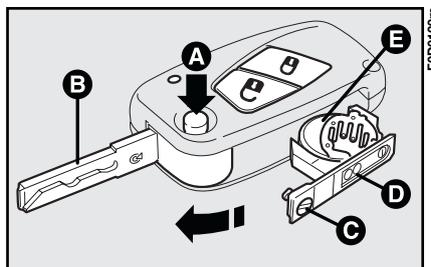

fig. 7
- press button **A**-fig. 7 and move the metal insert **B** to the open position;